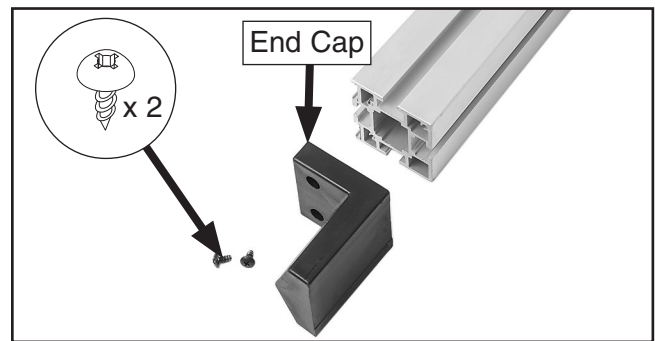

Figure 43. End cap removed from crosscut fence.
38. Remove tap screws and end cap from cross-cut fence (see **Figure 43**).